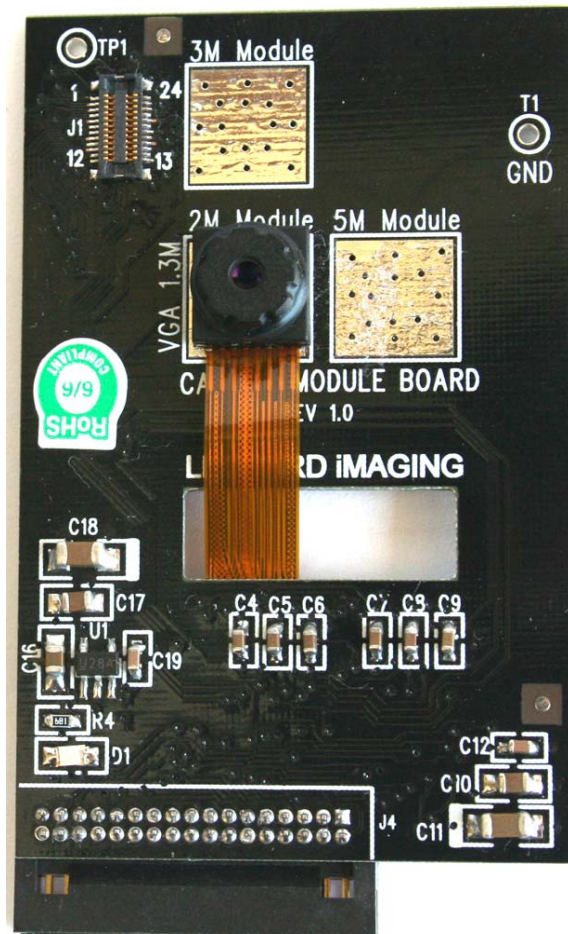

Figure 8. 1.3M Camera Board
1.3.5.1 1.3 Mega-pixel Camera Board, see Figure 8